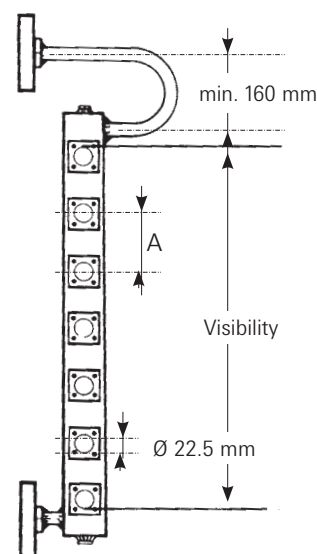

Figure 8
- The viewing length (gauge visibility, see figure 8 / table 2) is divided into a number of individual port assemblies, thus eliminating long, continuous glass strips, which are susceptible to cracking.
The 'visibility' of a gauge is defined as the distance between the top of the upper and the bottom of the lower visible glass (see table 2 / figure 8).